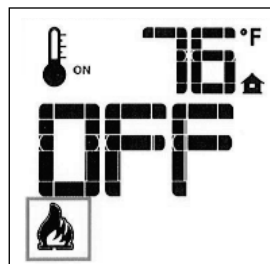

Figure 53. Burner OFF.
- Press the ON/OFF Key. The display will show only the room temperature and icon. At the same time, the Receiver will deactivate the call for heat and the burner will shut down. Fig. 53. A single “beep” from the Receiver will confirm reception of the command.
- With the system ON, and the burner flame level at maximum, press the Down Arrow Key once to reduce the flame height by one step. Each time the Down Key is pressed, the flame will step down until the burner is finally turned off. Fig. 53.